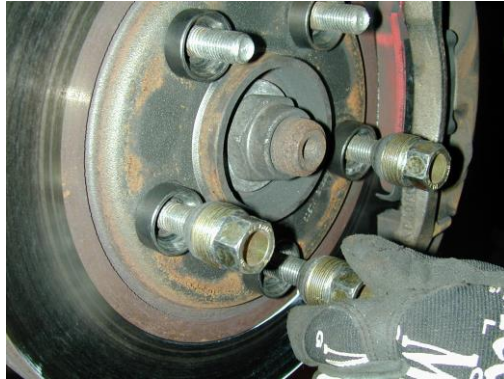

Fig.2
3. How do I check rotor run-out? (Fig.2)